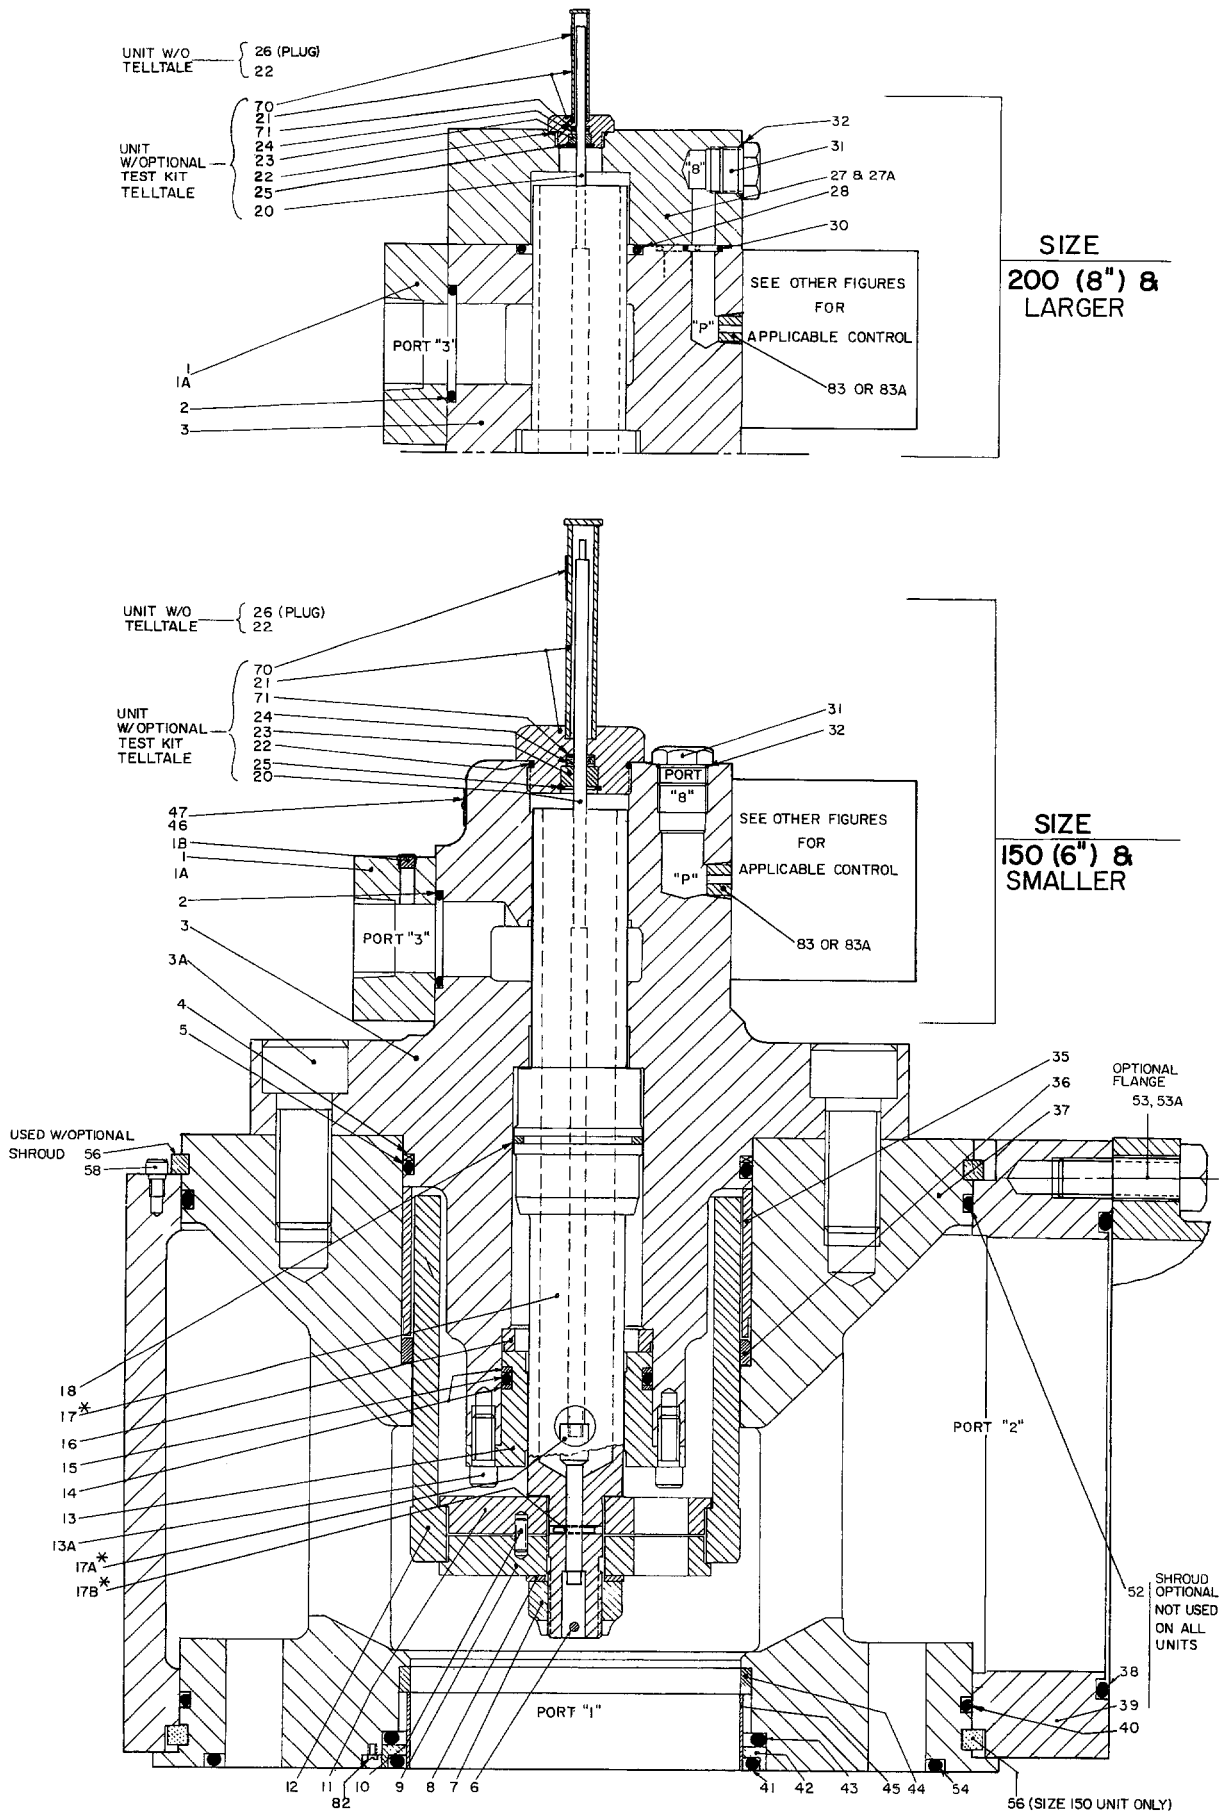

Figure 11. Parts Drawing, Type "VSA" 3-way Prefill valves (508280C sht. 1).
## IX. ASSEMBLY (refer to Figures 11 thru14).
**For size 200 and larger.** See Figure 11. Place o'rings (28 and 30) in place and then secure operator flange (27) to operator head with screws (27A).